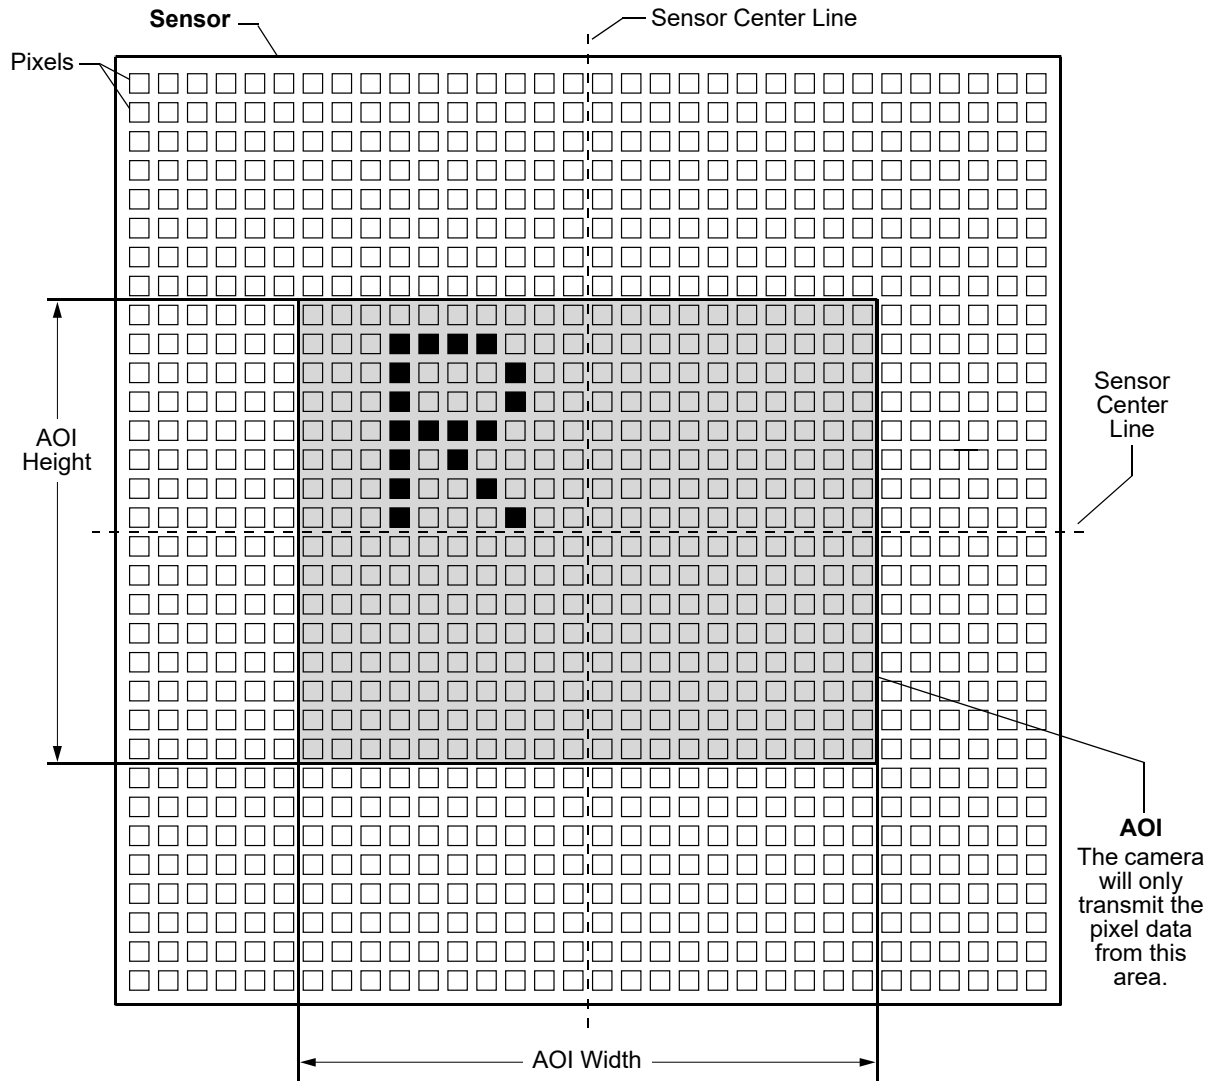

Fig. 47: Area of Interest for Tap Geometry 1X-2YE
- If the camera is set to the Camera Link **tap geometry 1X-2YE**, the Center Y capability is disabled (see Figure 47): The size of the area of interest is defined by declaring a width in columns of pixels and a height
For example, suppose that you specify the width as 20 columns and the height as 16 lines. The size and position of the AOI will be as shown in Figure 47.